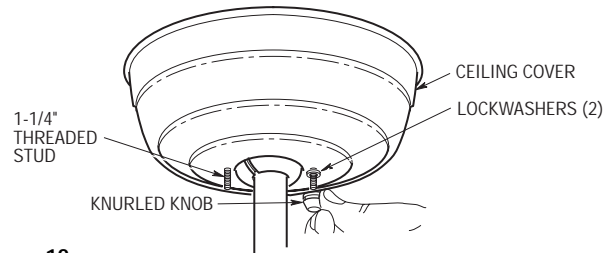

Figure 12
7. Lift the ceiling cover up to the threaded studs and turn until studs protrude through the holes in the ceiling cover (Figure 12).
8. Secure the ceiling cover in place by installing two lockwashers and two knurled knobs (supplied) (Figure 12). Tighten the knurled knobs securely until the ceiling cover fits snugly against the ceiling and the hole in the ceiling cover is clear of the downrod.